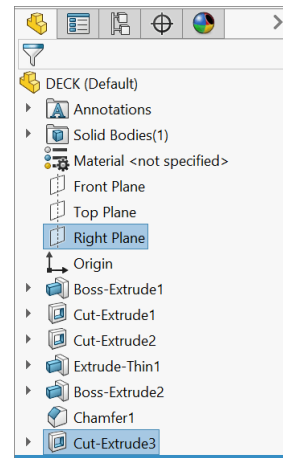

Fig. 53
- Step 1. **Ctrl** click **Right Plane**  and **Cut-Extrude3**  feature to select plane and feature, **Fig. 53**.